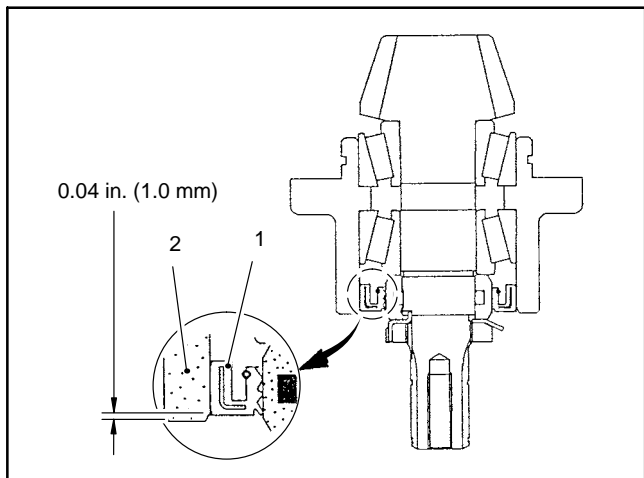

Figure 28
3. Coat a new oil seal with grease and install as shown (Fig. 28).